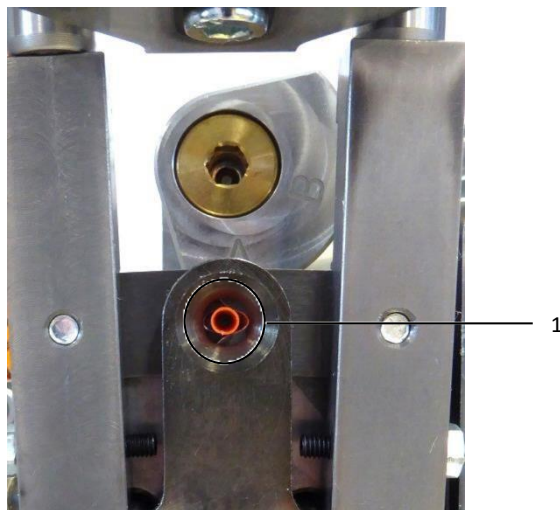

Fig. 35: Sleeve and stranded wire fixing unit are aligned
- Correct the position of the sleeve holding unit until the sleeve in the holding tongs is aligned with the stranded wire fixing unit (fig. 35, item 1).